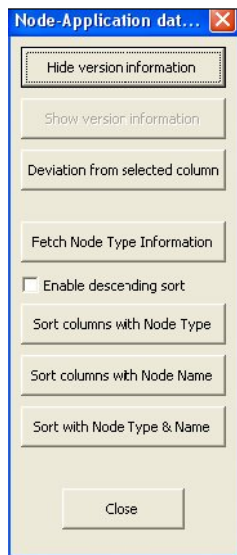

Figure 94. Advanced Tab
5. Select the **Advanced...** tab in the report to sort the result, see Figure 93 and Figure 94.